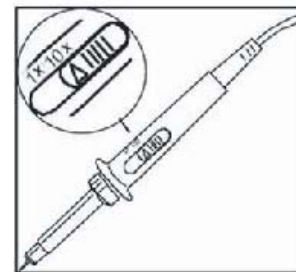

Figure 1-5 Setting the attenuation switch
(1) Connect the probe of the digital storage oscilloscope to the CH1 input, and set the attenuation switch of the probe to 10X (Figure 1-5).